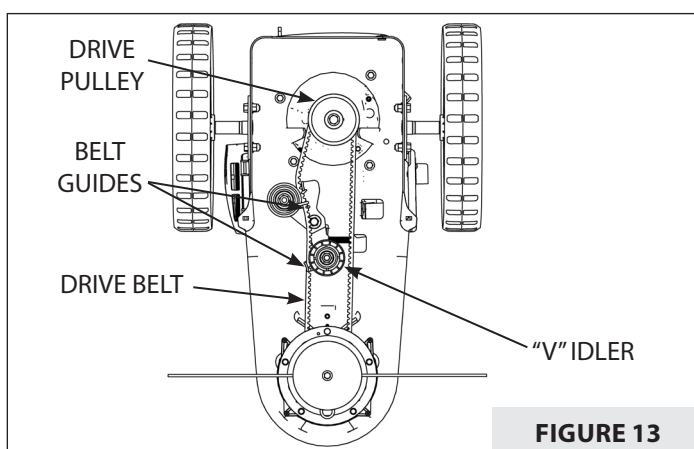

FIGURE 13
6. Check the routing of the drive belt. Make sure the drive belt is inside of all belt guides as shown. **SEE FIGURE 13.**